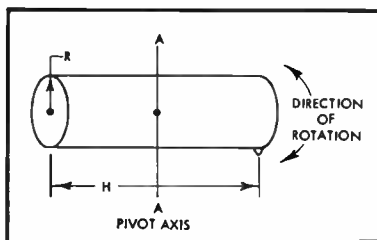

Fig. 4. Diagram of stylus bar to determine moment of inertia.
a typical system, (A) in Fig. 4, where a mass is forced to pivot about axis AA. The inertia of the moving element about axis AA is given by: